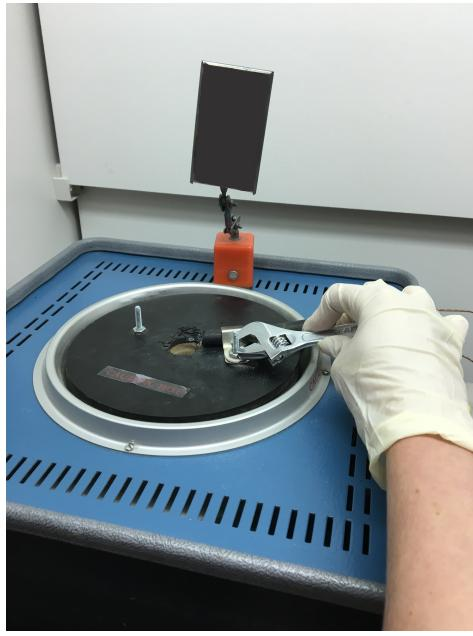

Figure 7: Position thermocouple 4 with the rubber hose and tighten
- * Tighten the nut on the bracket hand tight and then give a half turn with a wrench to secure the nut (See Figure 7)